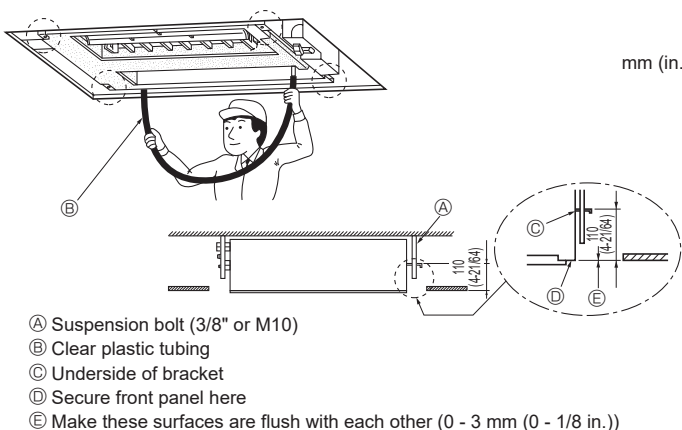

Fig. 2-7
1. Thread washers ① ② (supplied) and their nuts (procured locally) onto the suspension bolt in advance.
* Do this in the following order (from the top): nut, insulated washer ②, washer without insulation ①, two nuts.
* Position insulated washer ② with the insulated surface pointing down, as in the figure.
2. Lift the unit into place, aligned properly with the suspension bolt. Pass the bracket between washers ① and ②, which are already in place, and secure it. Do the same in all four places.
5. Tighten all the nuts. (Fig. 2-7)